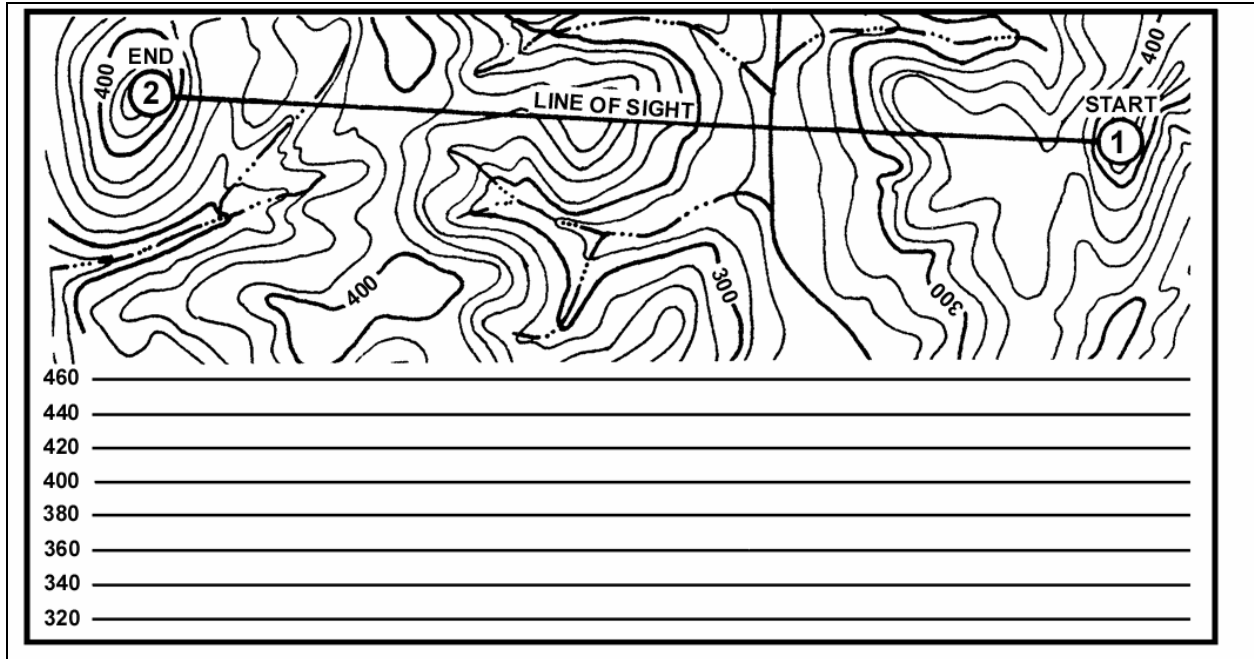

Figure 5-26. Profile line (map contour lines are 20 meters).
f. **Construction of a Terrain Profile.** The leader may use a side view or cross section of the ground along a selected line or direction to determine where friendly and enemy forces can see each other. The leader can also use it to plan fires; that is, to locate dead space, to plan a defilade position, and so on. To construct a terrain profile, locate the gun position on the map and determine the direction of fire, or profile line (Figure 5-26).